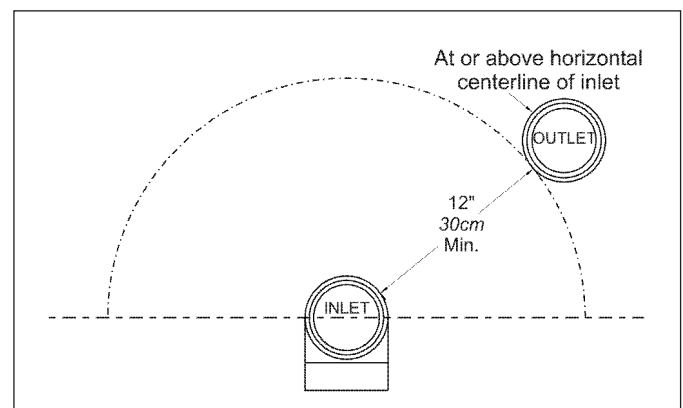

Figure 9. Minimum Venting Distance.
6. Vent outlet must be no lower than the center of the air inlet, and must be at least 12" (30cm) away from the air inlet (see Figure 9).